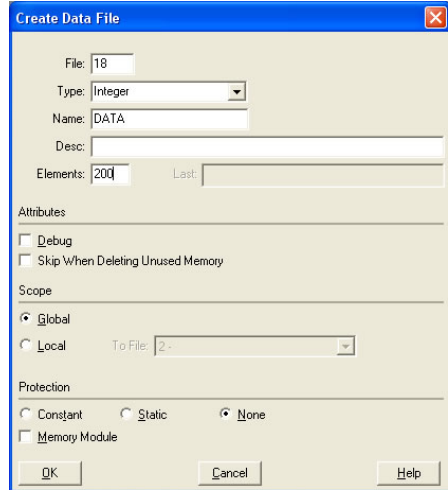

Figure 109: Creating a Data File
- c) Follow the same procedure to create a data file. This file will be used to store the incoming data read from the interface card. Enter a file number (e.g. 18), set the type to "Integer", enter a descriptive name (e.g. "DATA"), and enter a number of elements (e.g. 200). Refer to Figure 109. Click OK to create the file.